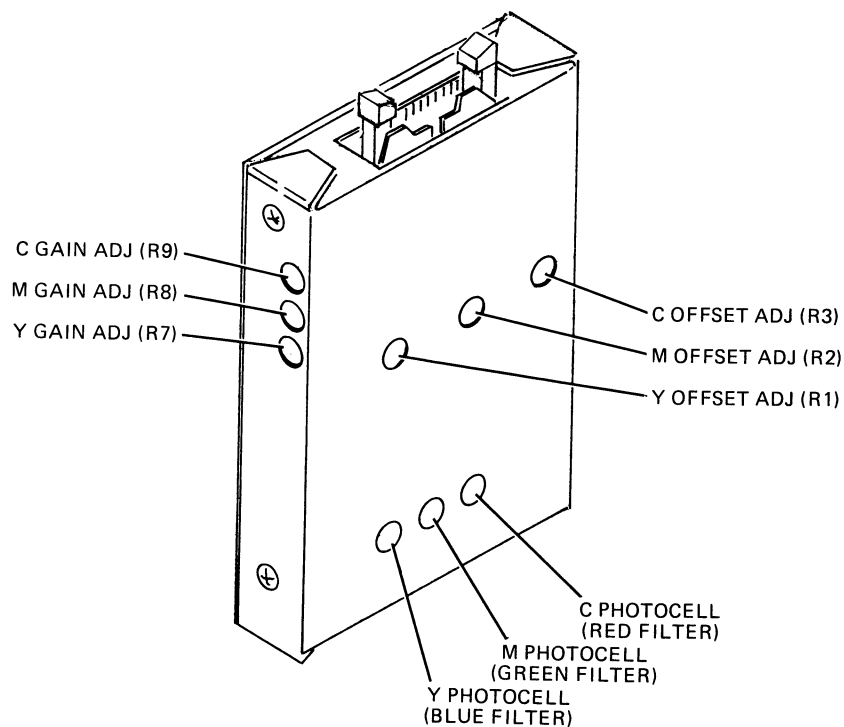

Figure 2-2. Location of Probe Assembly Adjustments
The mixing chamber color probe assembly, figure 2-2, has internal adjustments for setting gain and offset of each color channel. Gain checks and adjustments are performed during WHITE LIGHT mode, and the adjustments are accessible with the lamphouse panel removed; while offset adjustments are performed during READY PRINT mode and must be made with the probe removed from the mixing chamber to access the offset controls. Offset adjustments require the use of a breakout board to gain access to the circuit monitoring points; alternatively, if the controller has been disassembled, the test points can be accessed directly at the main lamphouse connector, J1.
- e. The C, M and Y sensor gain adjustments are located on the right side of the sensor assembly (figure 2-2). Adjust one channel at a time, using the yellow screwdriver supplied, adjusting clockwise (to increase) or counter-clockwise (to decrease), as necessary, until the readings for each channel are within a range of +10 to -10.
b. The color probe, figure 2-2, is an integral part of the mixing chamber. To gain access to the offset adjustments, the probe must be removed from the mixing chamber. Set power switch to OFF, remove probe connector and remove mixing chamber with probe attached.